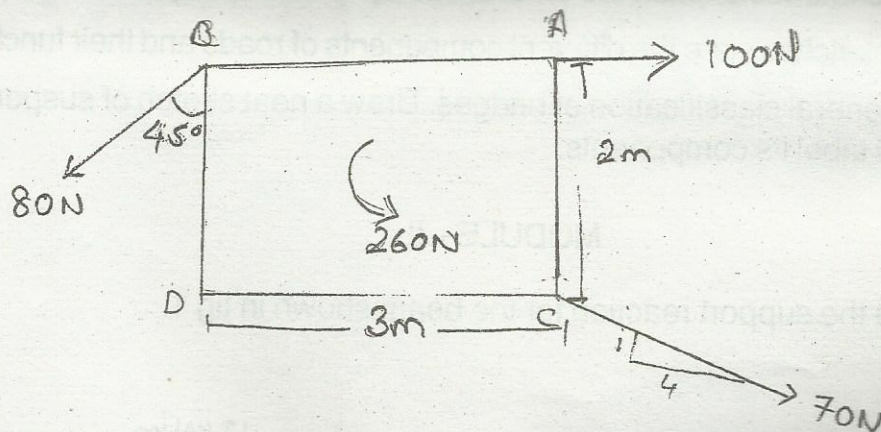

Fig. 3
4. a) Replace the given force system into a single force and a moment at A. Refer fig 3.